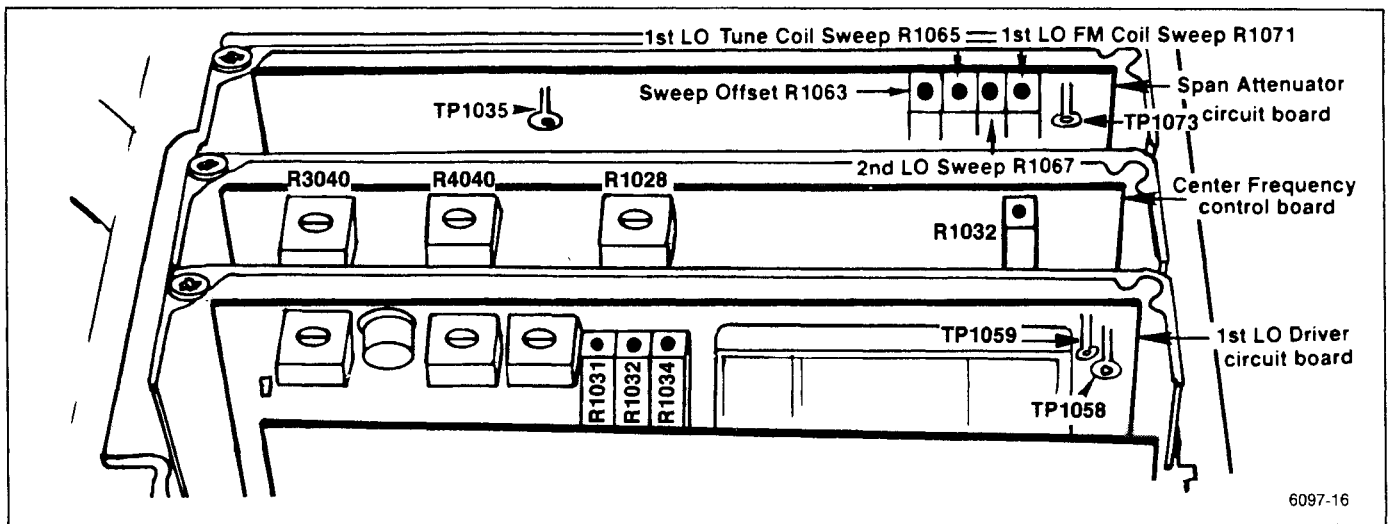

Figure 5-10. Frequency control system test point and adjustment locations.
b. Connect a shorting strap from TP1035, on the Span Attenuator board, to chassis ground (Figure 5-10). Monitor TP1073 with the Digital Voltmeter.
c. Adjust Sweep Offset R1063 (Figure 5-10) for 0.00 V.
d. Remove the shorting strap from TP1035. Press <SHIFT> 0 select item 1 (FREQUENCY LOOPS CAL), then item 0 (OVERALL SYSTEM) from the menus. Perform the calibration steps in the directory up to "CONNECT A DVM TO PIN B ON THE CONTROLLED OSCILLATOR BOARD AND GROUND ", then press <SHIFT> to abort.
(1) If a "CALIBRATION STEP CANNOT BE COMPLETED" message is displayed, bypass the step, perform the other adjustments then return to the adjustment and try to bring the adjustment in range. If the problem persists, refer to Troubleshooting the Frequency Control System, in the Maintenance section.
(1) Apply the CAL OUT signal to the RF INPUT, set the FREQUENCY to 600 MHz, FREQ SPAN/DIV to 100 MHz, and set the REF LEVEL to display the markers.
(2) Adjust Tune Coil Swp R1065, on the Span Attenuator board (Figure 5-10) for one marker per division over the center eight divisions of the graticule. Reset the CENTER FREQUENCY as necessary to align the markers.
(3) Remove the Calibrator signal and apply 0.2 μ s time marks from the Time Mark Generator to the RF INPUT.
(4) Set the FREQ SPAN/DIV to 5 MHz, REF LEVEL to +10 dBm, and FREQUENCY to about 10 MHz.
(5) Adjust the 1st LO FM Coil Swp R1071 (Figure 5-10) for 1 marker/division over the center eight divisions of the display.
(6) Set the FREQ SPAN/DIV to 20 KHz and apply 50 μ s markers from the Time Mark Generator.
(7) Adjust the 2nd LO Sweep, R1067, for one marker/division over the center eight divisions.